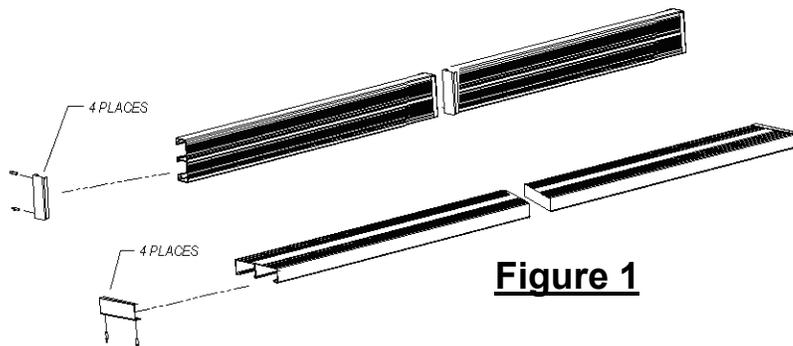

Figure 1
- A. Drill $\frac{3}{16}$ " diameter holes through $9\frac{1}{2}$ " bench and 6" backrest using predrilled holes in end cap as guide, 2 per end cap. **See Figure 1**